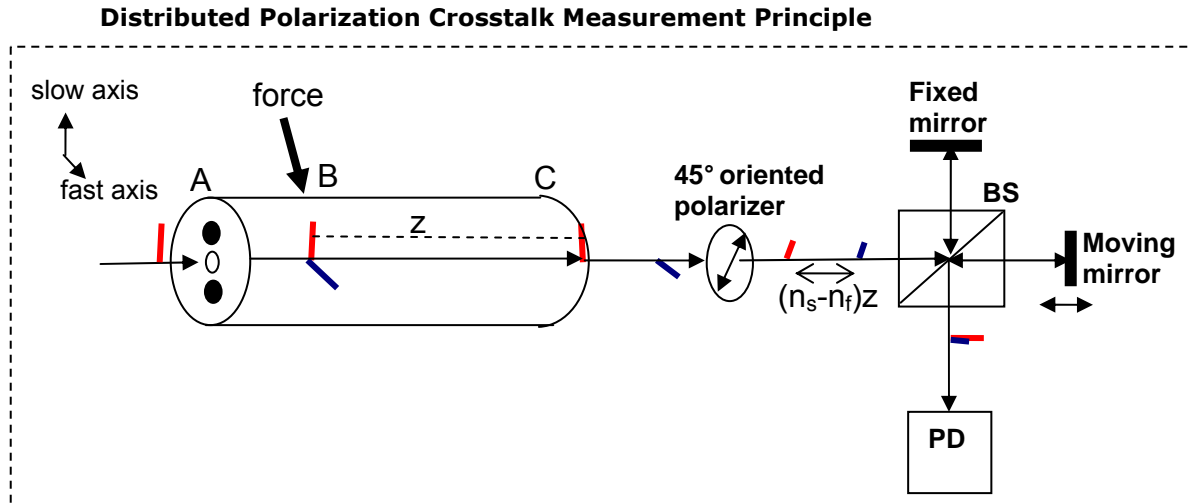

Figure 8 Polarization crosstalk measurement principle
As shown in Figure 8, when light enters the PM fiber at position A, it has only one polarization component, aligned to the slow axis (red). Stress at position B induces polarization coupling and produces a polarization component aligned to the fast axis (blue). Because the two polarization components travel at different group velocities, at the output of the fiber (position C), the two components will experience a delay difference
where n_s and n_f are the refractive indices of the slow and fast axes, respectively, their difference Δn is the birefringence, and z is the distance between the coupling point B and the output point C. If a polarizer oriented at 45 degrees from the slow axis is placed at the fiber output, half of the power in each of the polarization components will pass through the polarizer and emerge with the same polarization state (linear, aligned to the polarizer axis). Consequently, they will interfere in the Michelson interferometer shown in Figure 8 to produce interference peaks as the delay is adjusted. The distance between the two adjacent interference peaks is $\Delta n z$; therefore, from Eq. (1), the location of the coupling point is $z = \Delta z / \Delta n$. The coupling point can therefore be located using the interference graph. The coupling ratio can also be calculated from the strength of the interference peaks.